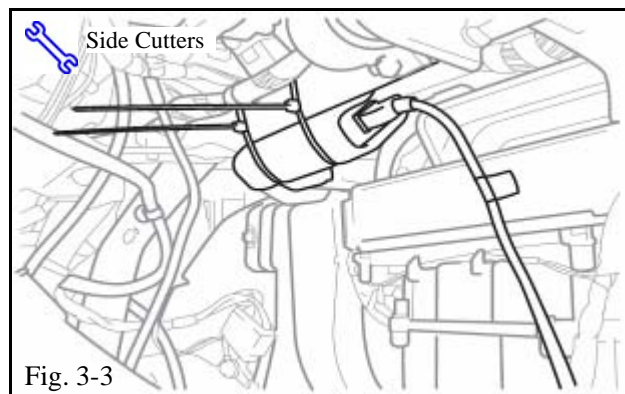

Fig. 3-3
- (f) Push up on the near side of the interface unit to slide it into place behind the vehicle cross member pipe. (Fig. 3-3)